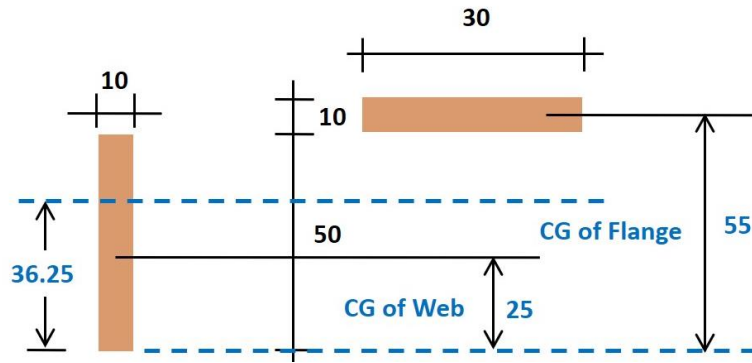

Figure 8: a T section details for calculation of I_{XX} values
We will take the web and the flange individually, and then sum it. First let us see the web part. Here the width (B) is 10, depth (D) is 50, distance of CG (d) from ground is 25, and difference in location of CG axis will be the difference between location of combined CG axis and the CG of the web; that is (36.25 – 25). Then second is the flange part. Here the width (B) is 30, depth (D) is 10, location of its own CG (d) from ground if 55, and difference between combined CG and own CG will be (36.25-55). For details refer Figure 8.